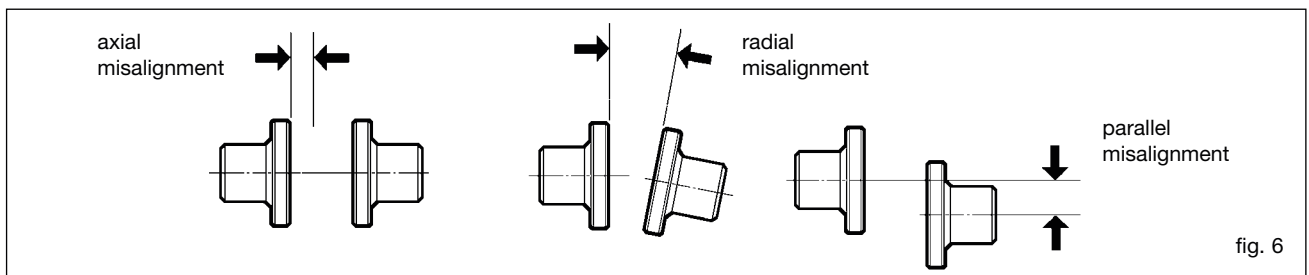

fig. 6
- tighten the anchor bolt nuts and recheck the alignment as shown in fig.6. Adjust the alignment, if necessary, according to the type of coupling as described in paragraphs 13.10; 13.11; 13.12.